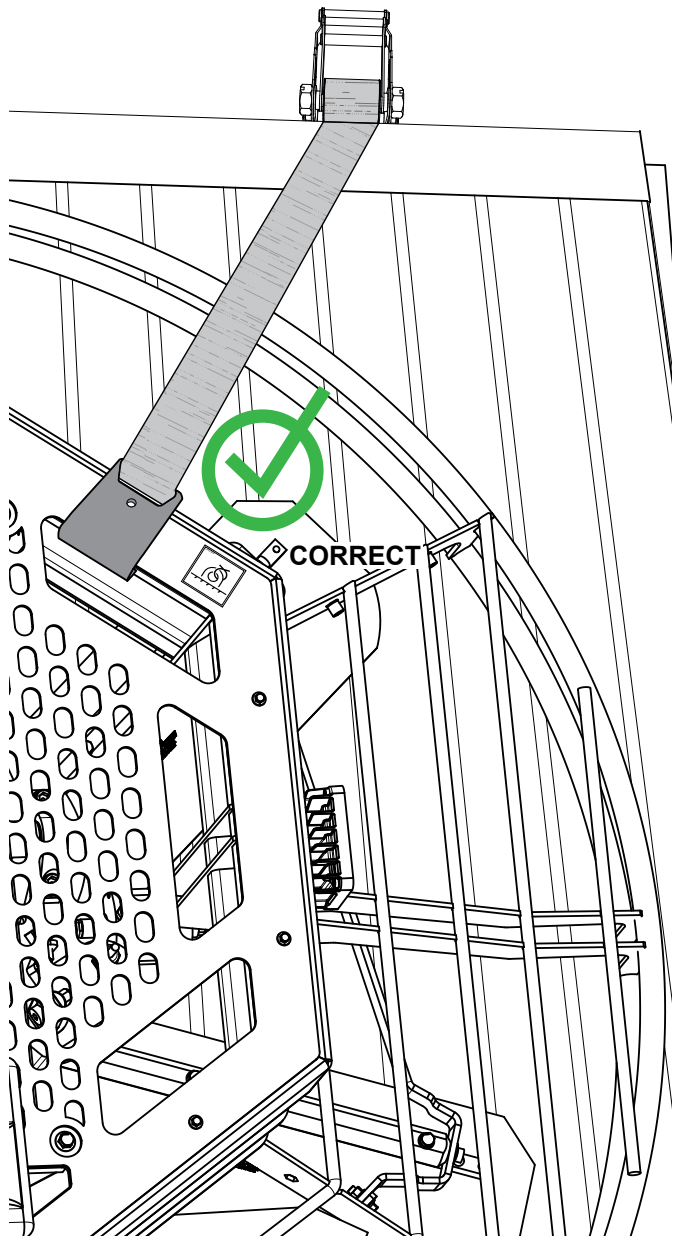
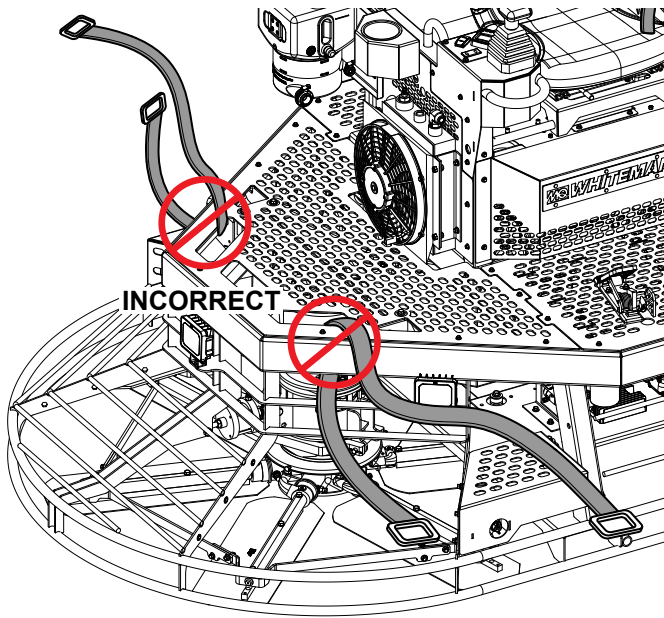

Figure 6. Tie-Down Method (Correct)
Figure 7. Tie-Down Method (Incorrect)
2. Attach suitable tie-down straps to the locations marked by the tie-down symbols. Be sure to connect the tie-down strap hooks directly to the trowel as shown in Figure 6. **DO NOT** wrap the tie-downs around the frame as shown in Figure 7.